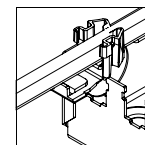

Figure 16
**Non-Metallic Sheathed Cable (Remodel, 12 GA only):** Perform wiring in Step 3 first. Once wires are connected, remove the connector from junction box. Pry end of connector open, insert cable, make a 90° L-shaped bend in cable and press connector back into junction box until it snaps in place (Fig. 16).